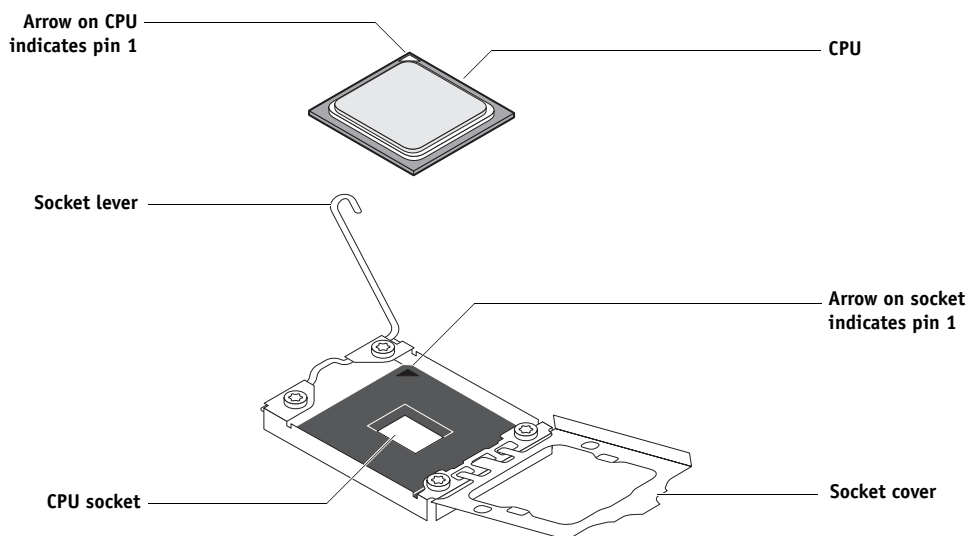

FIGURE 36: Replacing a CPU
1. **Lift the CPU socket lever to release the socket cover (see Figure 36).**